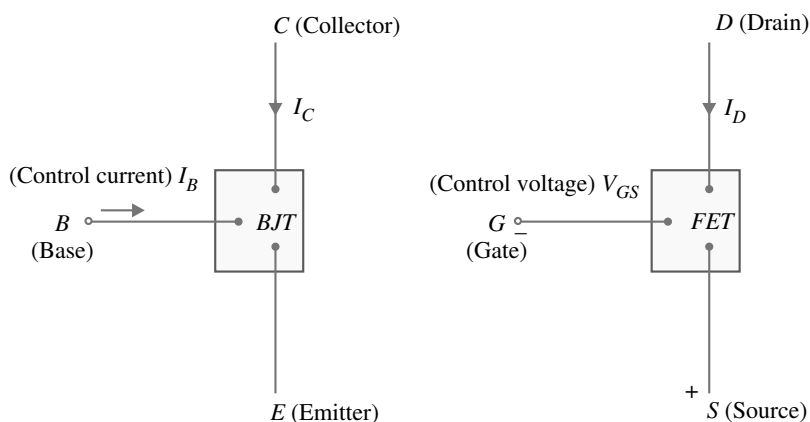

Fig. 17.1
A field-effect transistor (FET), like the bipolar junction transistor (BJT), is a three-terminal semiconductor device. The three terminals of a FET are named as *drain (D)*, *source (S)* and *gate (G)* corresponding to *collector (C)*, *emitter (E)* and *base (B)* of a BJT. A FET can perform the duties of amplification and switching operations far better than the BJT. Although both FET and BJT are three-terminal devices, they have quite different construction, operating principle and characteristics. Thus current conduction in a FET is due to the flow of only one of the two types of charge carriers : electrons or holes. For this reason, a FET is also called *unipolar transistor* (the prefix *uni* means single). On the other hand, current conduction in a BJT is due to the flow of both kinds of charges (electrons and holes) and hence the name bipolar junction transistor. Another important difference between BJT and FET is that BJT is a *current-controlled device* whereas FET is a *voltage-controlled device*. This is illustrated in Fig. 17.1. In a BJT, the base current ( $I_B$ ) controls the output current  $I_C$  (collector current) while in a FET, the input gate-source voltage ( $V_{GS}$ ) controls the output current  $I_D$  (drain current). In each case, the output current is being controlled by a parameter of the input circuit—base current ( $I_B$ ) in BJT and gate-source voltage ( $V_{GS}$ ) in a FET.